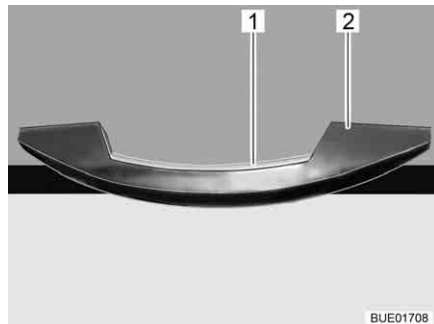

Fig. 59 Handle with unlocking bar (example)
- Press the unlocking bar (Fig. 59,1) and hold it down.
- Pull the handle (Fig. 59,2) until the furniture flap is open.